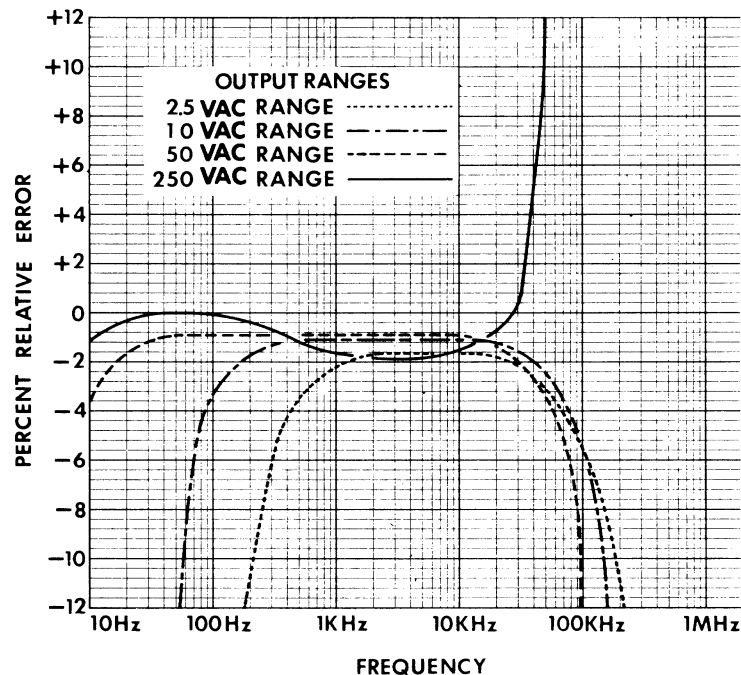

Figure 4-4. Frequency Response Output Ranges
4.9.1 It is necessary to measure the AC component of an output voltage where both AC and DC voltage levels exist. This occurs primarily in amplifier circuits. The 260 has a 0.1 μF , 400 volt capacitor in series with the OUTPUT jack. The capacitor blocks the DC component of the current in the test circuit, but allows the AC or desired component to pass on to the indicating instrument circuit. The blocking capacitor may alter the AC response at low frequencies but is usually ignored at audio frequencies (Figure 4-4).